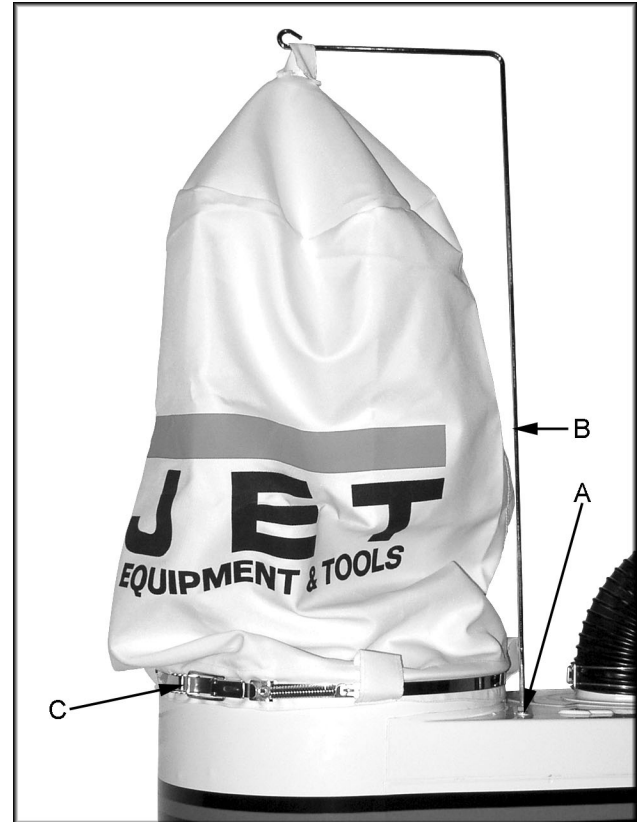

Fig. 5
7. Thread a M6 hex nut onto the filter bag support rod, followed by a M6 flat washer and M6 lock washer (A, Fig. 5). Thread the support rod (B, Fig. 5) into the motor/fan housing and tighten nut against housing.
8. Place the retaining strap (C, Fig. 5) through the loops on the filter bag and hang the filter bag from the hook.